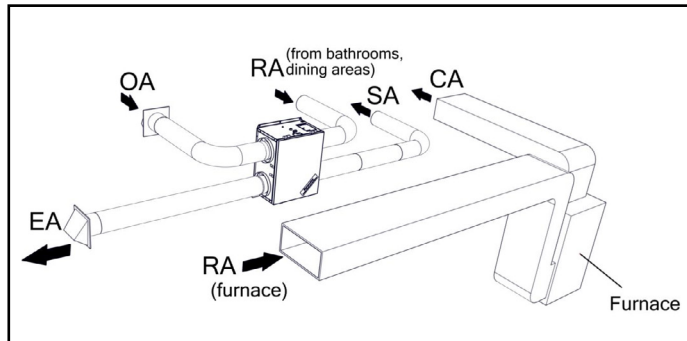

FIGURE 2.4.1 SEPARATE RETURN AIR AND SUPPLY AIR SUPPLY
- For houses without ducted heating or cooling systems—See Figure 2.4.1.